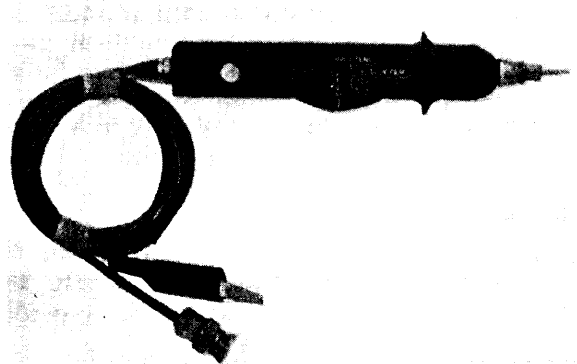

Figure 1-6. Test Lead MX-2681/UP
(1) TEST LEAD MX-2681/UP. Test Lead MX-2681/UP, shown in figure 1-6, is an oscilloscope attenuator probe which is supplied for signal-tracing video circuits. The test lead can be set for any one of three attenuation ratios of 1 to 1, 10 to 1, and 100 to 1. When desired, the pointed probe tip shown can be replaced with an alligator clip for more convenient connection to the circuit under test. The test lead is normally connected to the VIDEO input jack on the Display unit.
(2) VIDEO CABLES. For connecting video signals from equipment under test to the radar test set and making "patch" connections between units of the test set, several CG-530B/U cable assemblies are supplied as listed in table 1-1. They are made up of RG-62/U type low-capacitance coaxial cable having a nominal impedance of 93 ohms and nominal capacitance of 13.5 pf per ft. Each cable assembly is equipped with two UG-260/U (BNC type) connectors.
(3) RADIO FREQUENCY CABLES. For interconnecting radio-frequency signals, CG-409E/U cable assemblies are provided. These cables use RG-58C/U coaxial cable having nominal impedance of 50 ohms and have a capacitance of 29.5 pf per foot. They are equipped with UG-88F/U connectors at